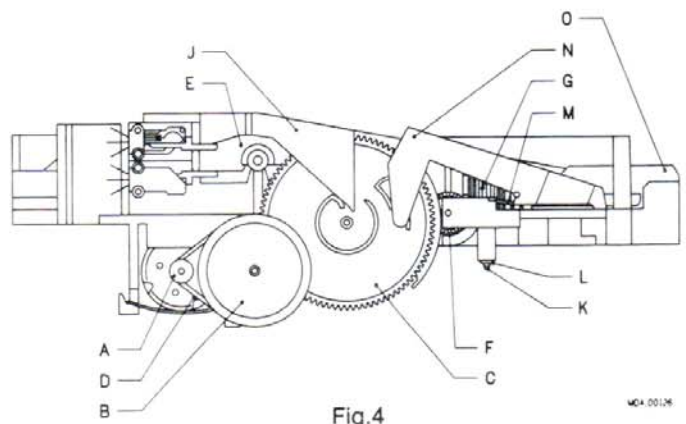
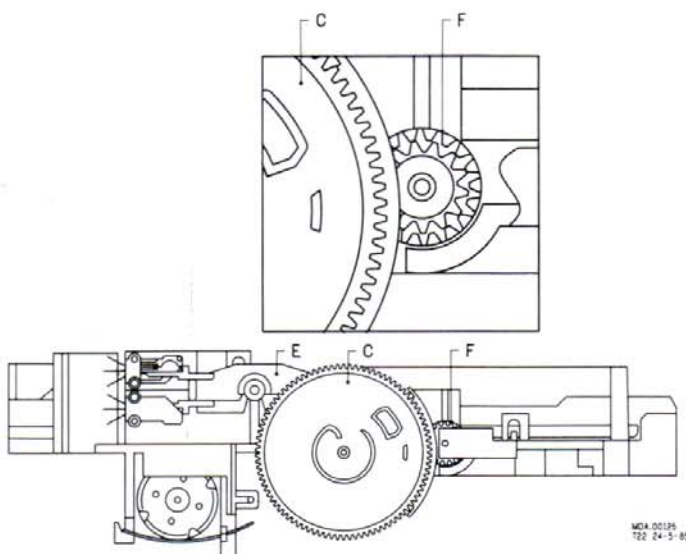

Fig.4
Fig. 5
- Ensure that the aperture in gearwheel F is vertical (see Fig. 4) and apply cog wheel C in the way described in Fig. 5.
Use 13th order filter 4822 395 30204 (see Fig. 5) to measure: